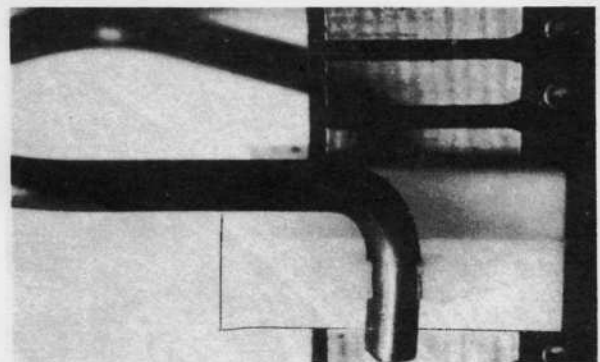

FIGURE 25. EDGE CONNECTOR CLAMP
STEP 22. Secure Edge Connector to board using the Edge Connector Clamp Assembly (see Figure 25). Allow approximately 5 minutes for set up before removing the Clamp. Clean excess Adhesive from area using the Abrasive Stick and Solvent. Allow 24 hours for complete bonding cure.